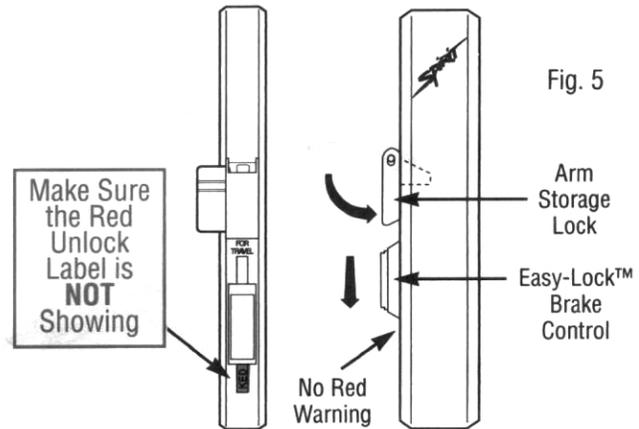

Fig. 5
- C. Arm storage locks are in the "down" position. (See Fig. 5)